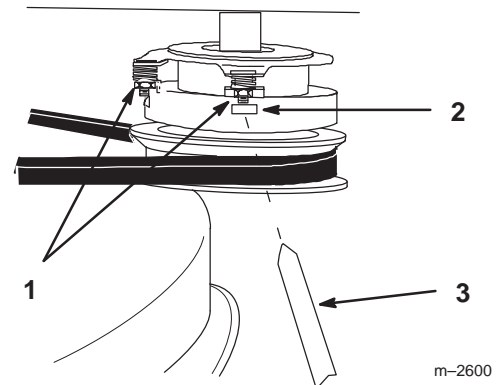

Figure 41
1. To adjust clutch, tighten or loosen lock nuts on flange studs (Fig. 41).
2. Check adjustment by inserting feeler gauge thru slots next to studs (Fig. 41).